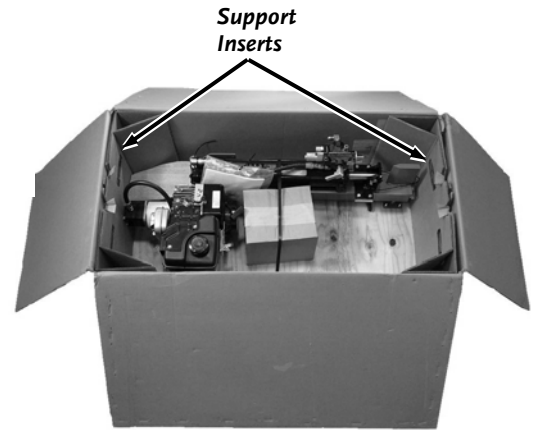

Figure 2
2. Cut the tape (utility knife) and open the box. Pull out both Support Inserts (*Figure 2*).